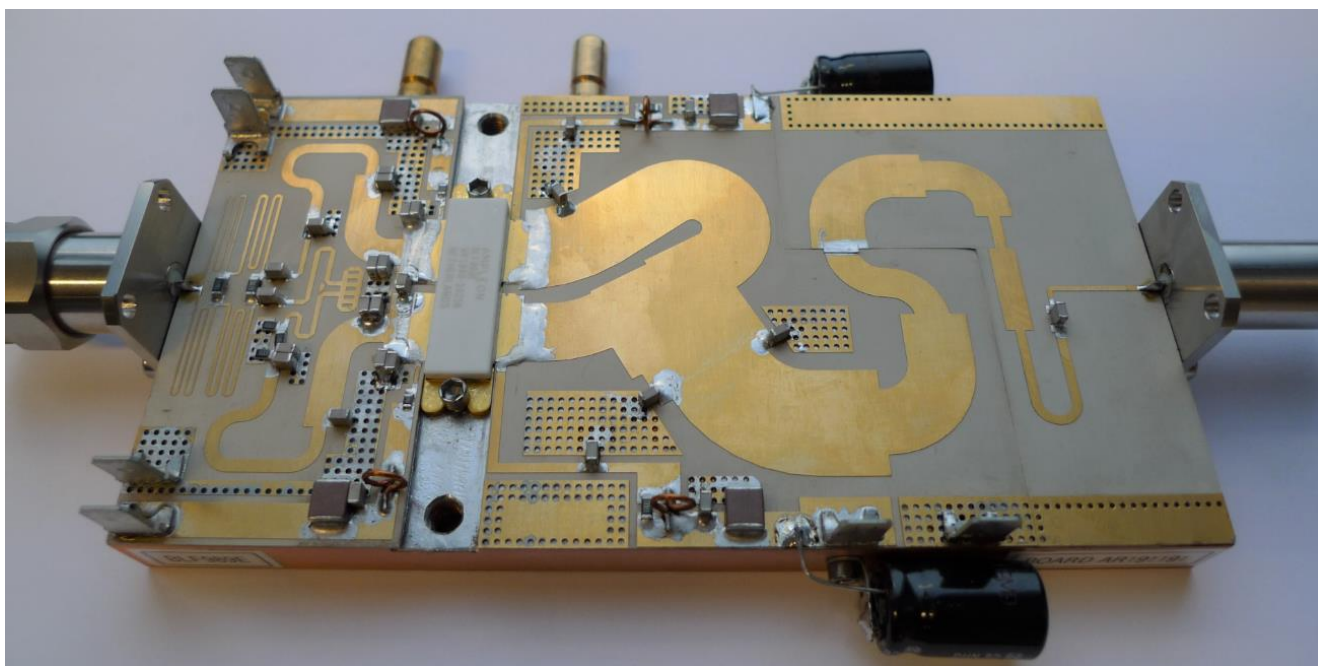

Figure 1 AR191191, 470-700Mhz demo top view
- Figure 1 AR191191, 470-700Mhz demo top view 3